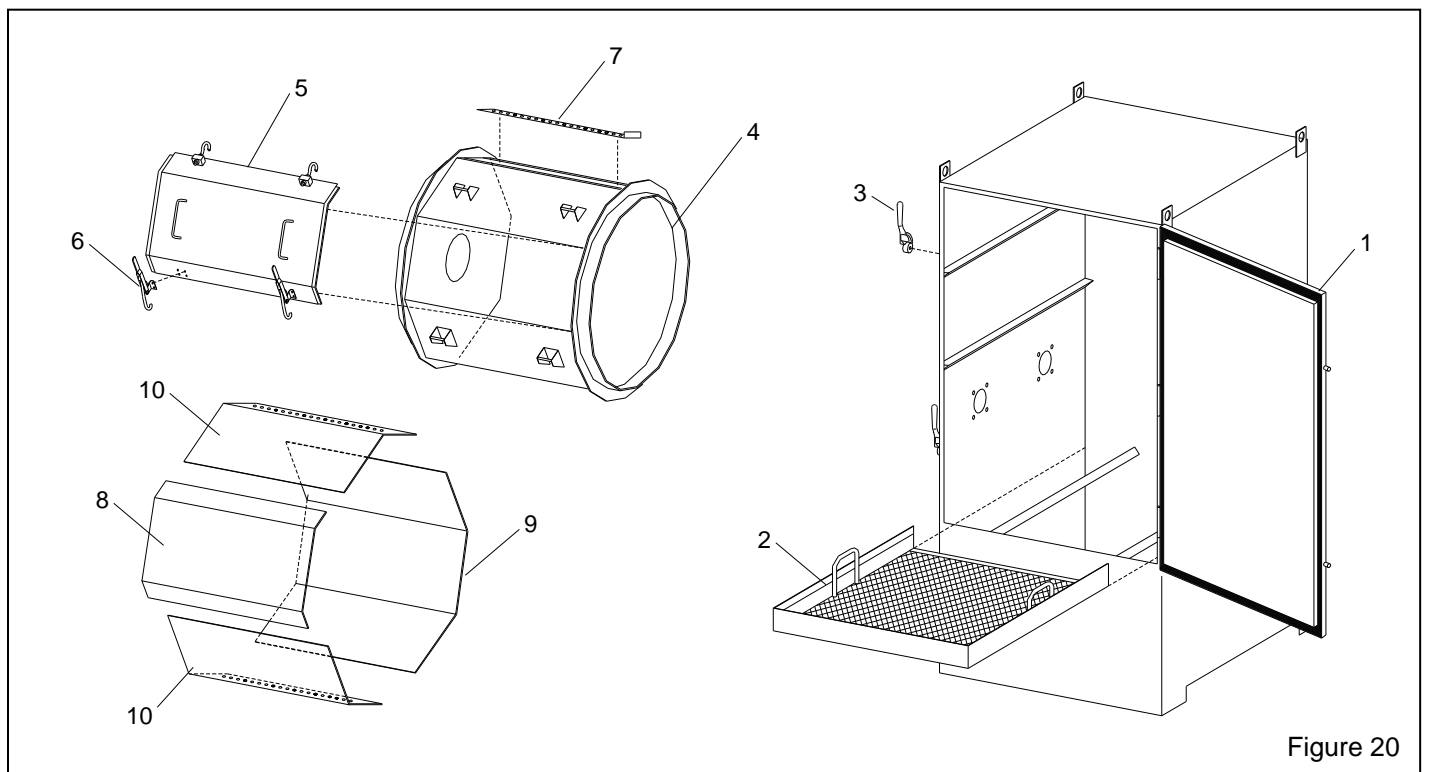

Figure 20
9.3 Cabinet and Barrel Assembly, Figure 20